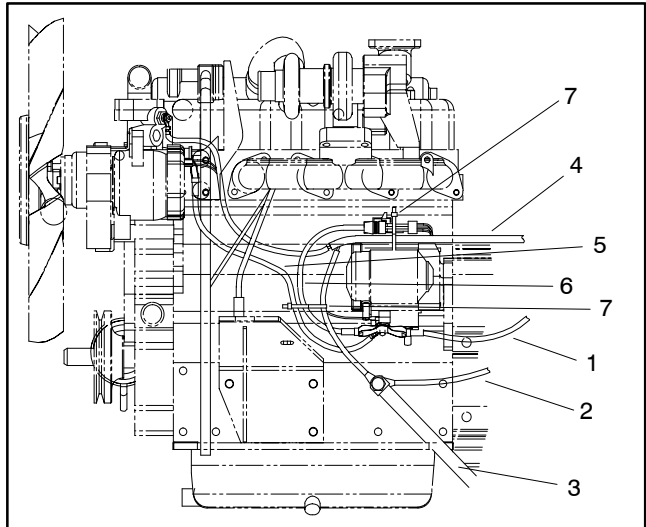

Figure 14
- D. Battery, frame and wire harness ground at the engine block (Fig. 14).
- E. The electric starter (Fig. 14) and low oil pressure switch (near electric starter).
- D. Battery, frame and wire harness ground to the engine block (Fig. 14).
- E. The starter (Fig. 14) and low oil pressure switch (near starter).